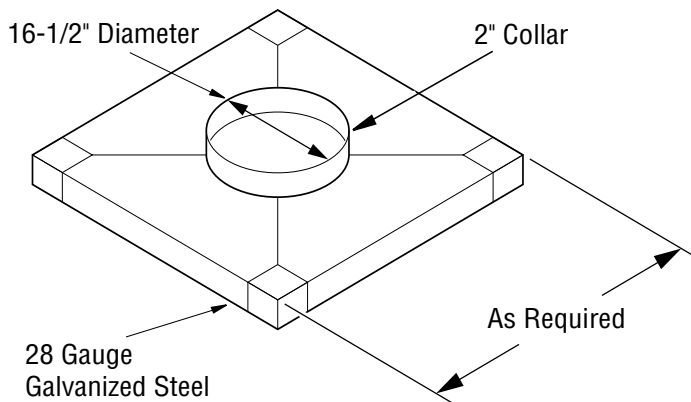

Figure 22 - Constructing Chase Top Flashing
3. Fabricate a flashing having a 16-1/2" diameter hole centered over chimney end with a 2" collar around hole (see Figure 22). Attach noncombustible spacers at each corner and place flashing over chase.